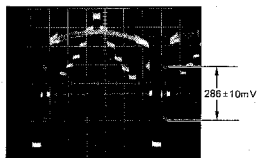

Fig. 5-16
- Adjust data by **ARROW** keys so that burst level becomes $300 \pm 10 \text{ mV}$ ($42 \pm 1.4 \text{ IRE}$) as shown in Fig. 5-16.